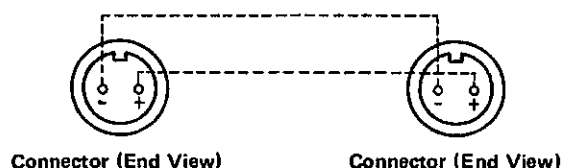

Figure 2.4. Twin-axial Polarity
2.3.8.3 Refer to Figure 2.4 for twin-axial connector polarity. This polarity configuration must be maintained to obtain correct signal distribution.